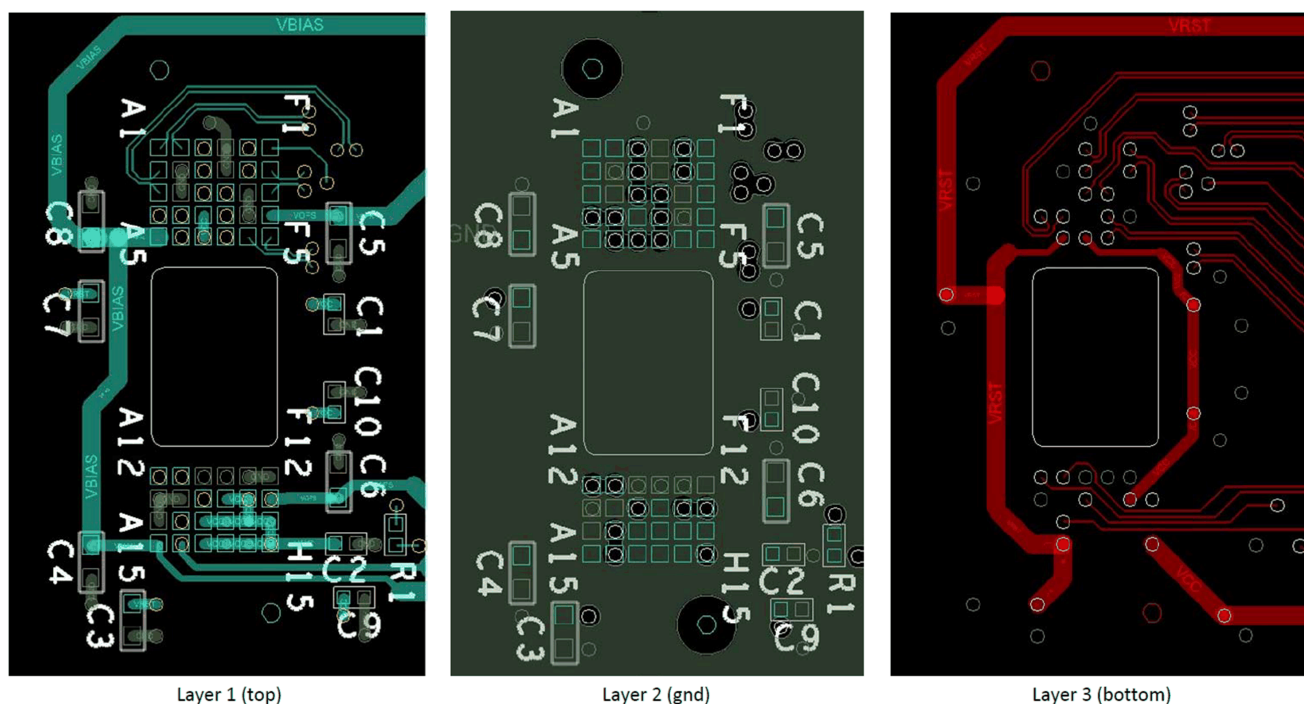

图 8-1. Power Supply Connections
- Minimize vias, layer changes, and turns for the HS bus signals. Refer to 图 8-1.
- Minimum of two 100nF (25V) capacitors—one close to V_{BIAS} pin. Capacitors C4 and C8 in 图 8-1.
- Minimum of two 100nF (25V) capacitors—one close to each V_{RST} pin. Capacitors C3 and C7 in 图 8-1.
- Minimum of two 220nF (25V) capacitors—one close to each V_{OFS} pin. Capacitors C5 and C6 in 图 8-1.
- Minimum of four 100nF (6.3V) capacitors—two close to each side of the DMD. Capacitors C1, C2, C9 and C10 in 图 8-1.